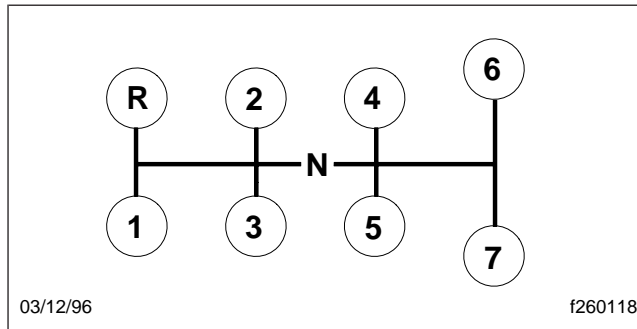

Fig. 8.15, Spicer 7-Speed Transmission Shift Pattern
Spicer 7-speed series transmissions are synchronized in all gears except 1st and reverse. They have seven forward gears and one reverse gear. See Fig. 8.15 for the shift pattern.
4. Continue shifting upward, using the same sequence described in step 3 above. See Fig. 8.15 for the shift pattern.